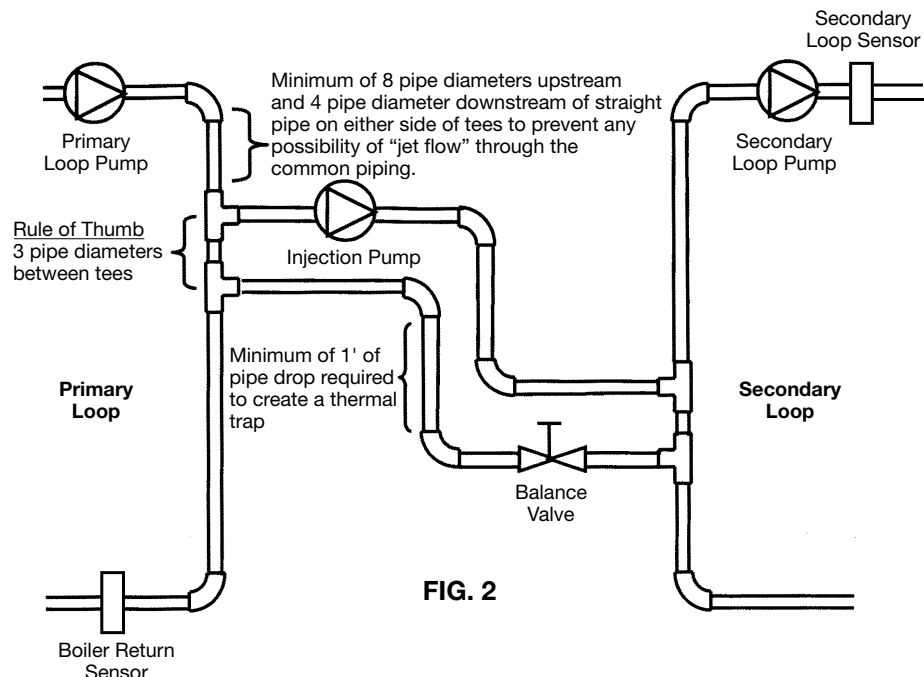

FIG. 2
- The Injection piping can be installed horizontally as shown in Fig. 2.